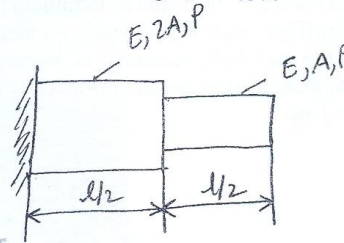

Fig. Q7
- 7 Find eigen values and eigen vectors for stepped bar when it is subjected to axial vibrations with fixed free end conditions as show in Fig. Q7. (20 Marks)